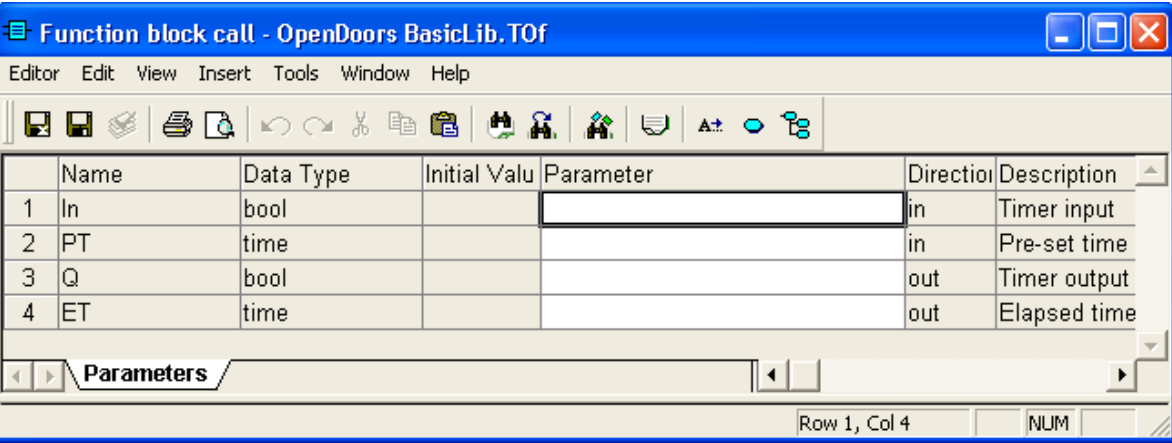

Figure 29. The Function block call editor.
- 5. When you type the leading left-hand parenthesis ‘ ( ‘, a Function block call editor will open, see Figure 29.